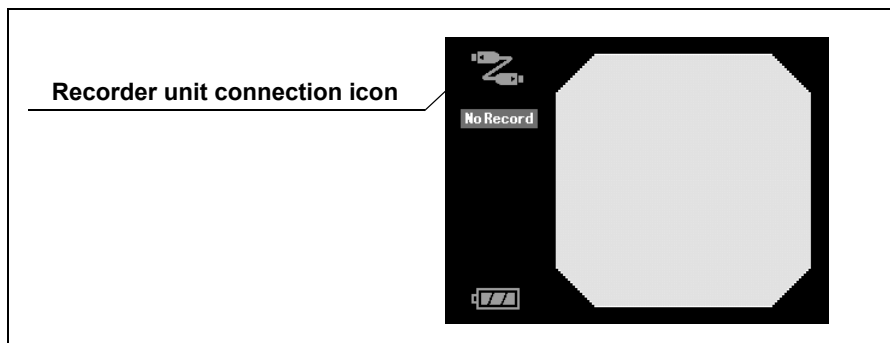

Figure 5.41
- On the upper left of the real time viewer's display panel, a receiver connection icon is displayed to indicate that the image is being transmitted from the recorder unit via the real time viewer cable (see Figure 5.41).